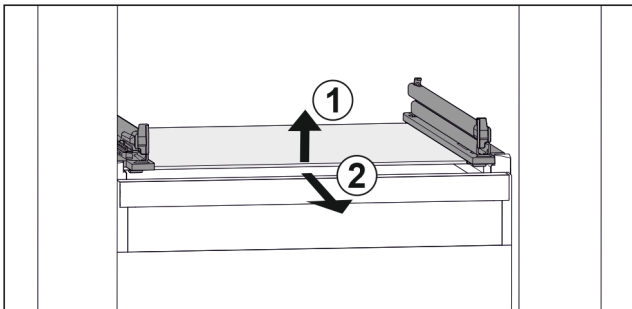

Fig. 121 Example illustration of glass shelf
- Lift glass shelf at the front. Fig. 121 (1)
- Take out glass shelf to the front. Fig. 121 (2)